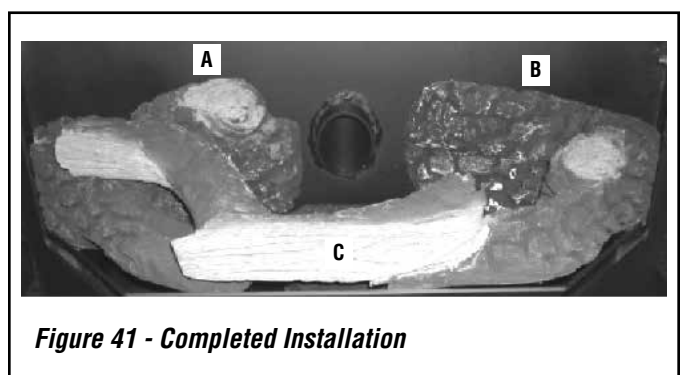

Figure 41 - Completed Installation
3. Remove the ceramic logs from the box and carefully unwrap them. Position each back log (A and B in *Figure 41*) in their proper place, one on each side against the back of the firebox.
4. The front log should face the front of the firebox with the wood grain showing. It should rest on the other two back logs. See *Figure 41* for assembled log set.